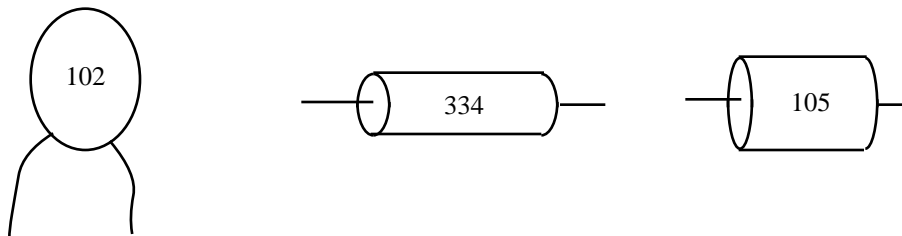

Figure 1.3 Number Coded Capacitors
- There is a three-digit number code for labeling capacitors. The label 224 means 22 with 4 zeros, interpreted as a capacitance value in picofarads. (224 = 220,000 pF = 220 nF.) You also will see labels like 22 μ F, 22 μ F, 22 MF, and 22 MFD, all of which mean 22 microfarads. Another notation is 220 uuF, which means 220 picofarads (uu = micro micro). Write down the values of the capacitors shown in Figure 1.3. Use the most appropriate unit: pF, nF, or μ F.